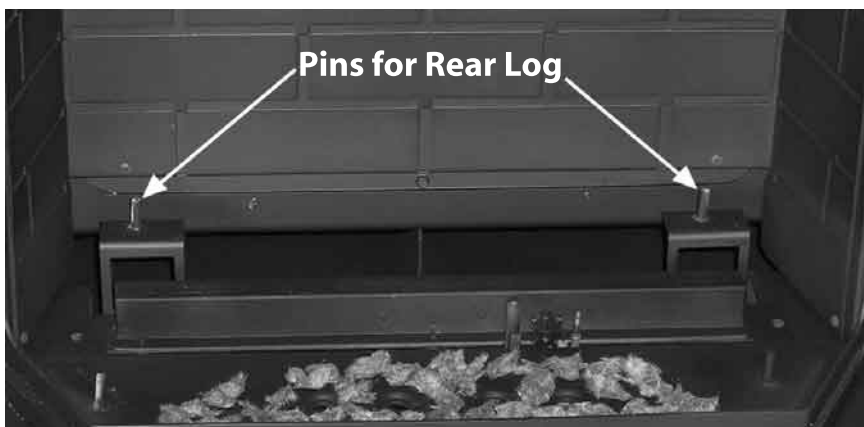

Figure 12: Step 2 of Log Placement
1. The embers can be place before or after the logs are placed. A bag of ceramic fiber embers and rock wool embers is provided gently remove the ember material from the plastic bag. Spread a layer loosely in a random manner across the burner tray. Do not allow any embers to rest against pilot assembly. (See Figure 12 or 15 for proper ember placement.)